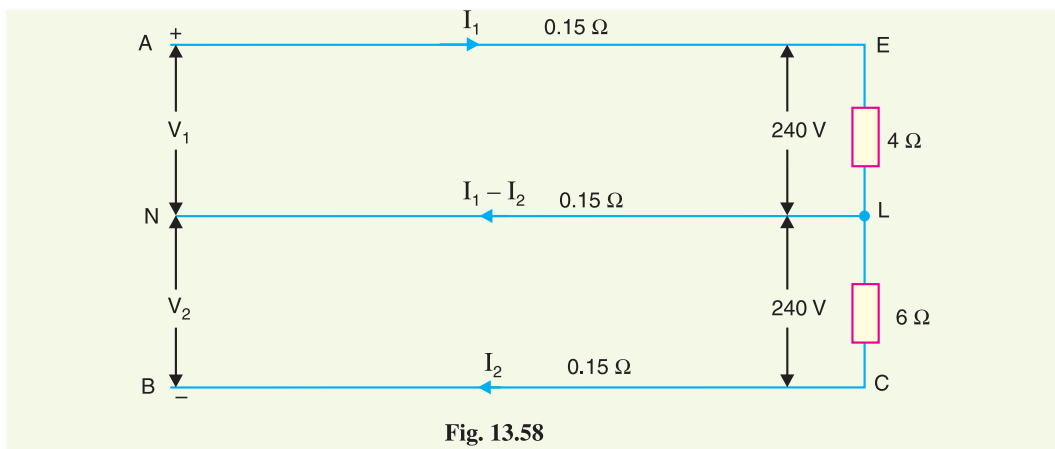

Fig. 13.58
**Solution.** Fig. 13.58 shows the conditions of the problem when the system is healthy. Let us find the feeding end voltages.